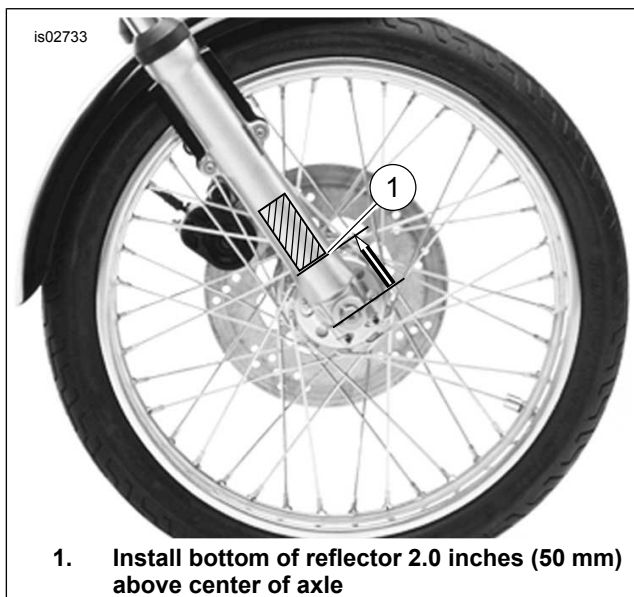

Figure 1. Reflector Placement
- Peel the liner from one side of the foam double-sided tape. Position the tape to the back of the reflector. Press firmly into place. Peel the remaining liner from the tape. Place the reflector in position on the fork slider as shown in Figure 1. Press firmly into place. Repeat the procedure on the opposite side fork slider.